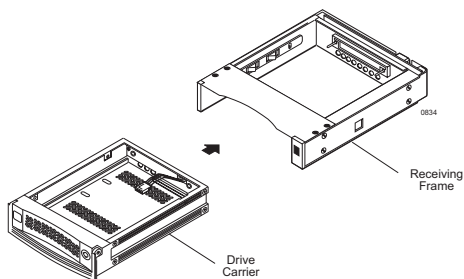

Figure 2: DE110 Receiving Frame and Carrier
The StorCase Technology **Data Express® DE110 for Backup** is a removable drive carrier and receiving frame, designed to provide durable and reliable mounting for one (1) low-profile (up to 1" high) 3.5" Ultra ATA100 drive within a 5.25" half-height peripheral slot (Figure 2). It is downward compatible with earlier technology IDE drives.